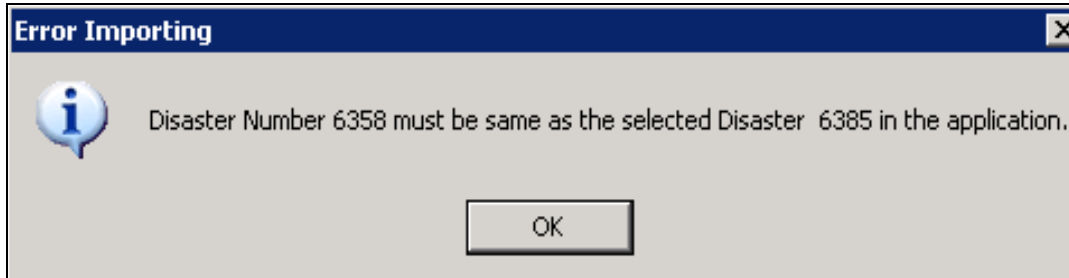

Figure 11-56: Disaster Number 6358 must be same as the selected Disaster 6385 in the application error message
- The system will return the following Error Importing message (Figure 11-56). Select OK, correct the Disaster Number and attempt to import the spreadsheet again using the process described previously.